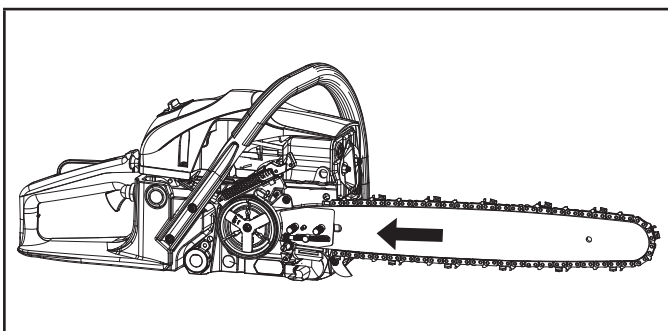

Figure 30
5. Slide bar toward engine to loosen chain (Fig. 30).